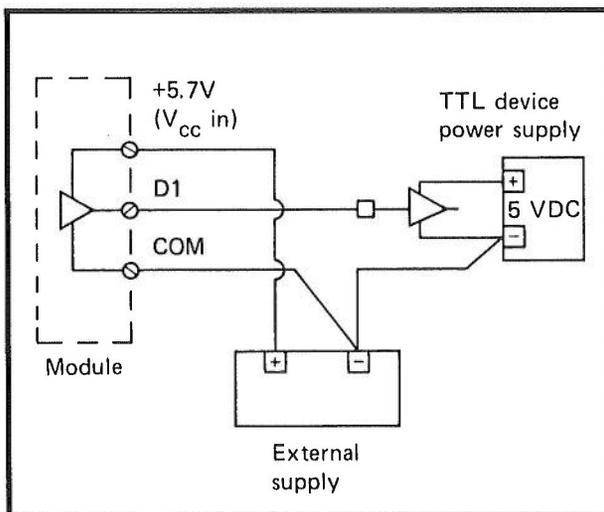
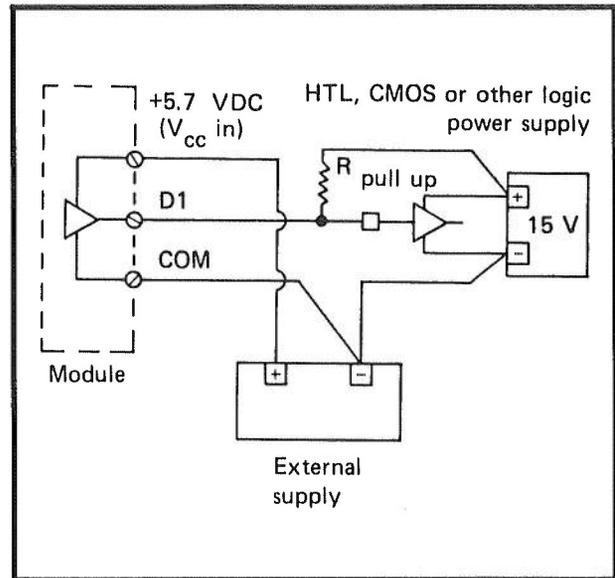

Figure 8 — TTL, LP TTL, LS TTL, CMOS Connections
Figure 9 — 5 to 30 VDC HTL, CMOS Connections
10. A typical connection diagram for TTL, LP TTL, LS TTL and CMOS devices operating at 5 VDC is shown in Figure 8. Typical connections for HTL, CMOS or other devices — such as annunciators or computer inputs — that operate at 5 to 30 VDC are shown in Figure 9. Note that in both Figures the DC common (-) terminal of the external power supply
In Figure 8, if the 5 VDC output device power supply can also provide the additional 450 mA required by the module, the external 5.7 VDC power supply can be eliminated. The + Vcc IN at the + 5.7 VDC terminal on the module can connect directly to the + terminal on the output device supply.
In Figure 9, note that the pull-up resistor is used to pull the module's output to a voltage high enough to meet the device's high-level voltage and current input requirements. (A 5K ohm resistor should be adequate for either HTL or CMOS.)